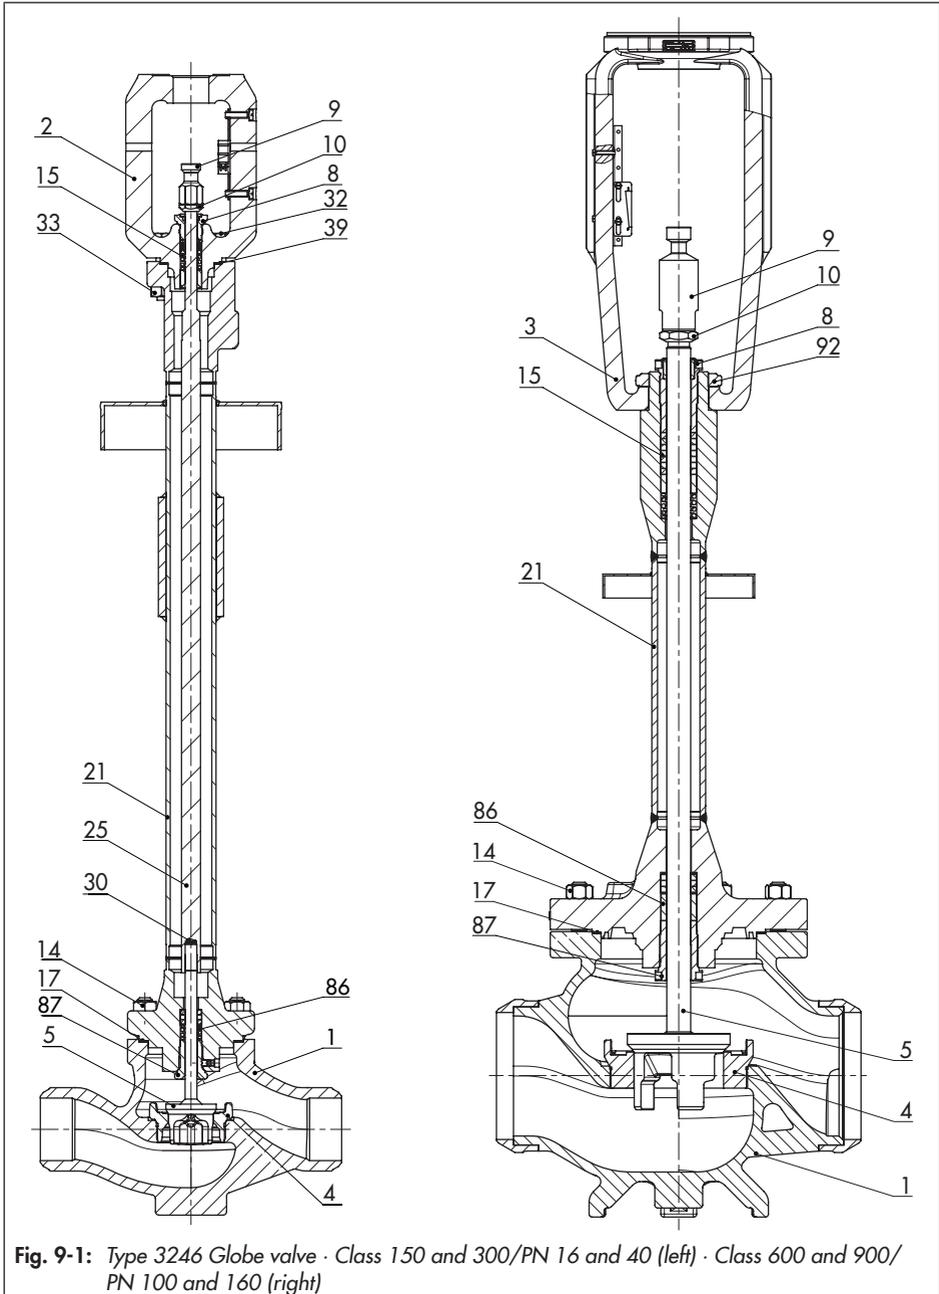

Fig. 9-1: Type 3246 Globe valve · Class 150 and 300/PN 16 and 40 (left) · Class 600 and 900/PN 100 and 160 (right)
4. Loosen threaded bushing (87).
5. Unscrew the plug with plug stem (5) from the plug stem extension (25) and pull out of the insulating section (21).
8. Carefully slide the individual parts of the circulation inhibitor into the packing chamber using a suitable tool. Observe the proper sequence (see Fig. 9-1).